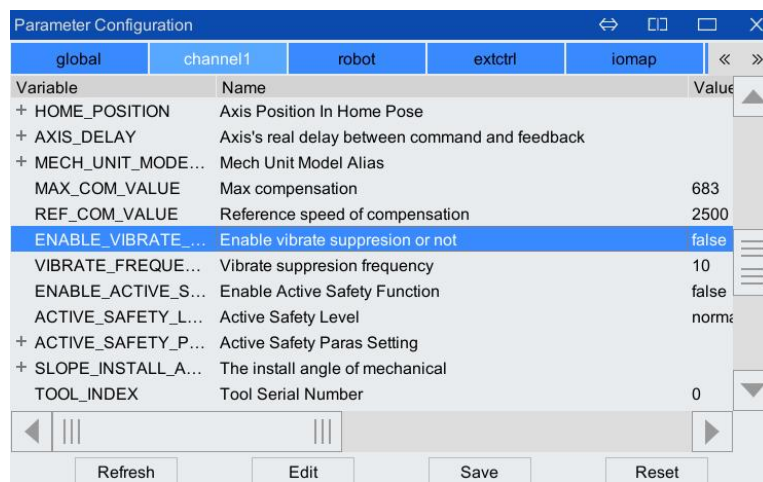

Figure 10-7 [Channel 1] tab
- Step3. In the "Channel 1" tab, select "Enable vibrate suppression (ENABLE\_VIBRATE\_SUPPRESSION)", and click the <Edit> button. As shown in Figure 10-7.